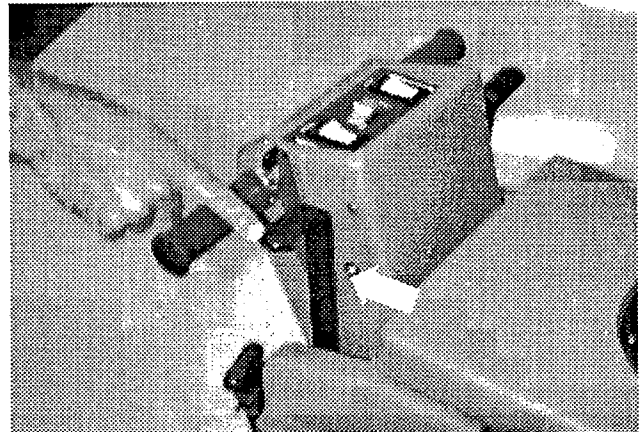

FIG. 8
2. Shut off solution flow: Pull back completely on solution flow lever to shut off. (Figure 8)